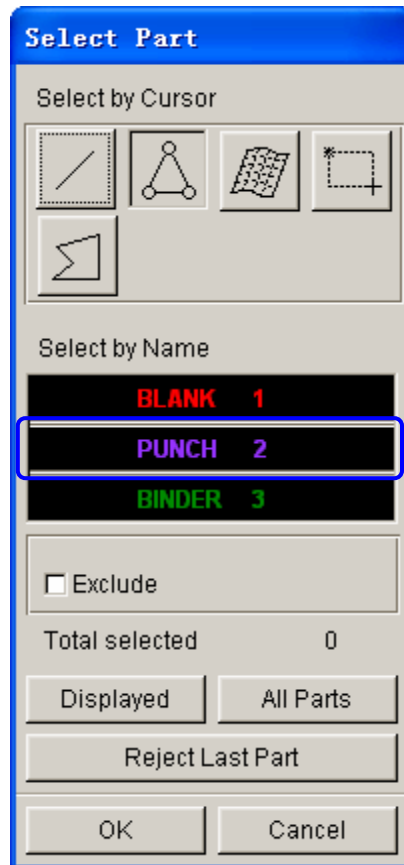

Figure 7.16 Select part dialog box
6. Select **PUNCH** part from the SELECT PART dialog box illustrated in Figure 7.16.